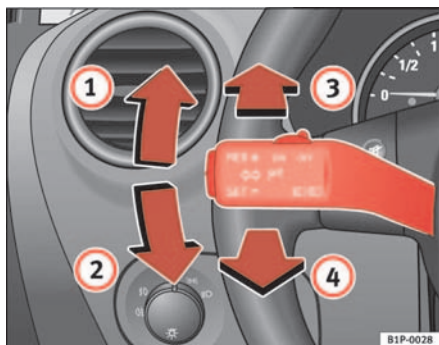

Fig. 76 Turn signal and main beam headlight lever
- Move the lever all the way up ⇒ fig. 76 ① to indicate **right**, and all the way down ② to indicate **left**.
- Press the lever forward ⇒ fig. 76 ③ to switch on the main beams.